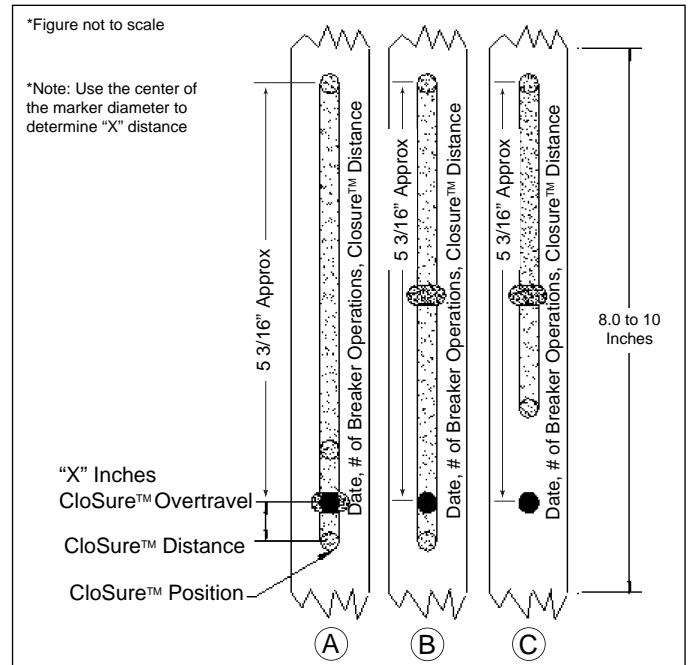

Figure 6-18 Illustrative Testing Tape Sample
Step 13 - Evaluate the CloSure™ performance by comparing the test tape with the illustrations in Figure 6-18. If the marking is similar to 6-18A, measure the over travel “x”: If “x” is greater than or equal to 0.6 inches, the circuit breaker performance is satisfactory. If “x” is less than 0.6 inches or if the marking is similar to 6-18B or 6-18C, immediately contact the Product Integrity Center for Technical Support at (412) 787-6518.